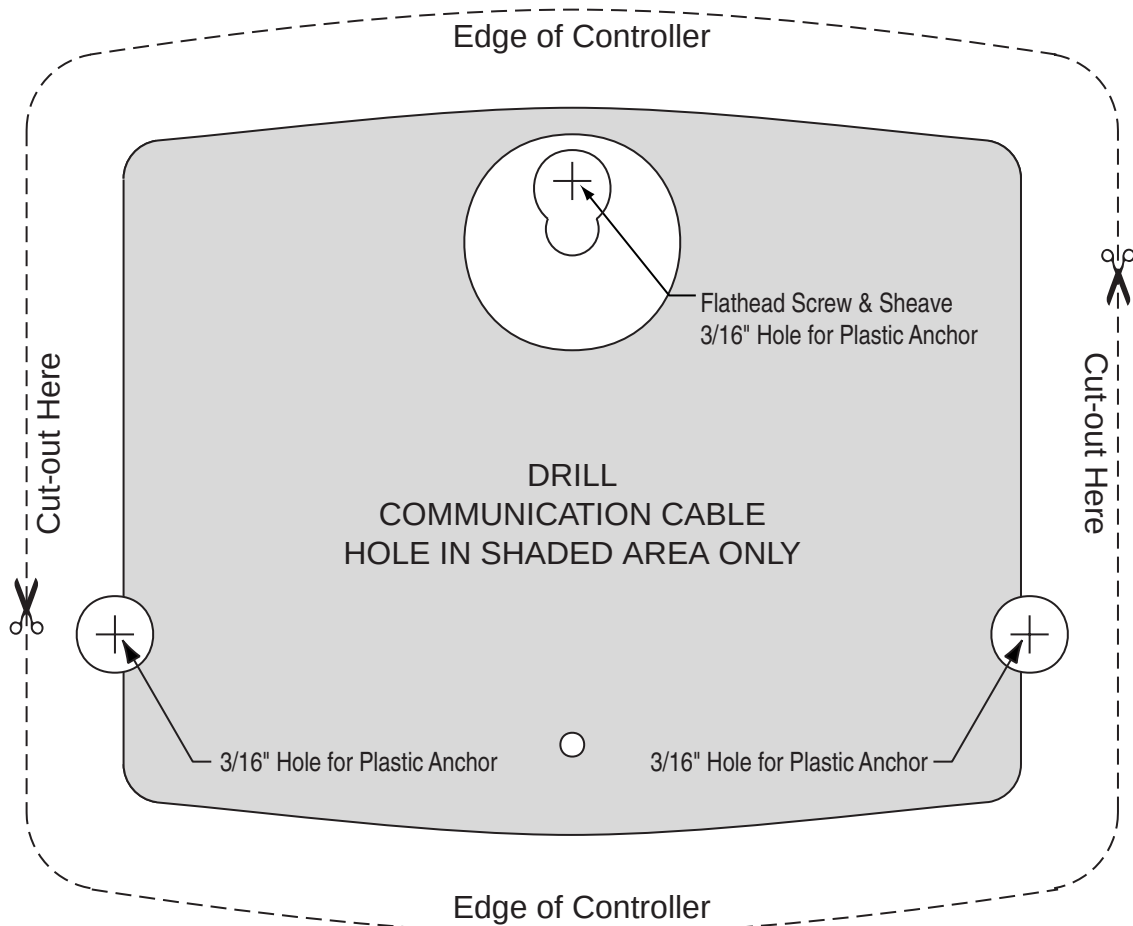

Figure 5.
1. Four holes are required to mount the unit: three for mounting screws, and one for the communication cable. Using the template below (Figure 5), mark the wall where the mounting holes will be made. If screws will not be screwed into studs drill 3/16 in. holes and insert wall anchors (included) as required. Drill fourth hole large enough for cable to feed through (approx. 1/4 in.) within the bounds of the template but outside the areas indicated.